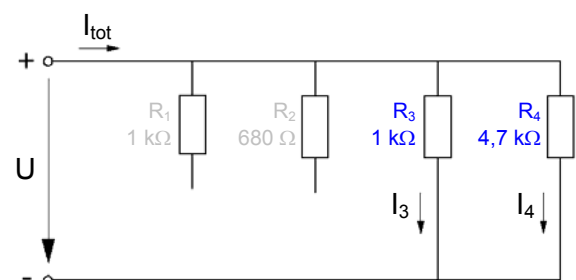

Fig. 3.8.3.1: Two resistors in parallel
- Remove resistors  $R_1 = 1\text{ k}\Omega$  and  $R_2 = 680\ \Omega$  from the circuit (or a bridge, as in Fig. 3.8.3.1).